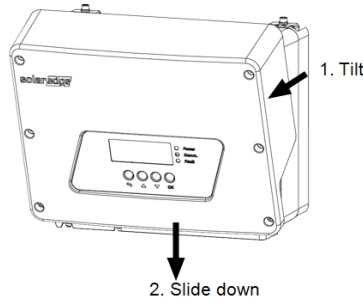

Figure 26: Removing the inverter cover
4. Open the inverter cover (see Figure 26):